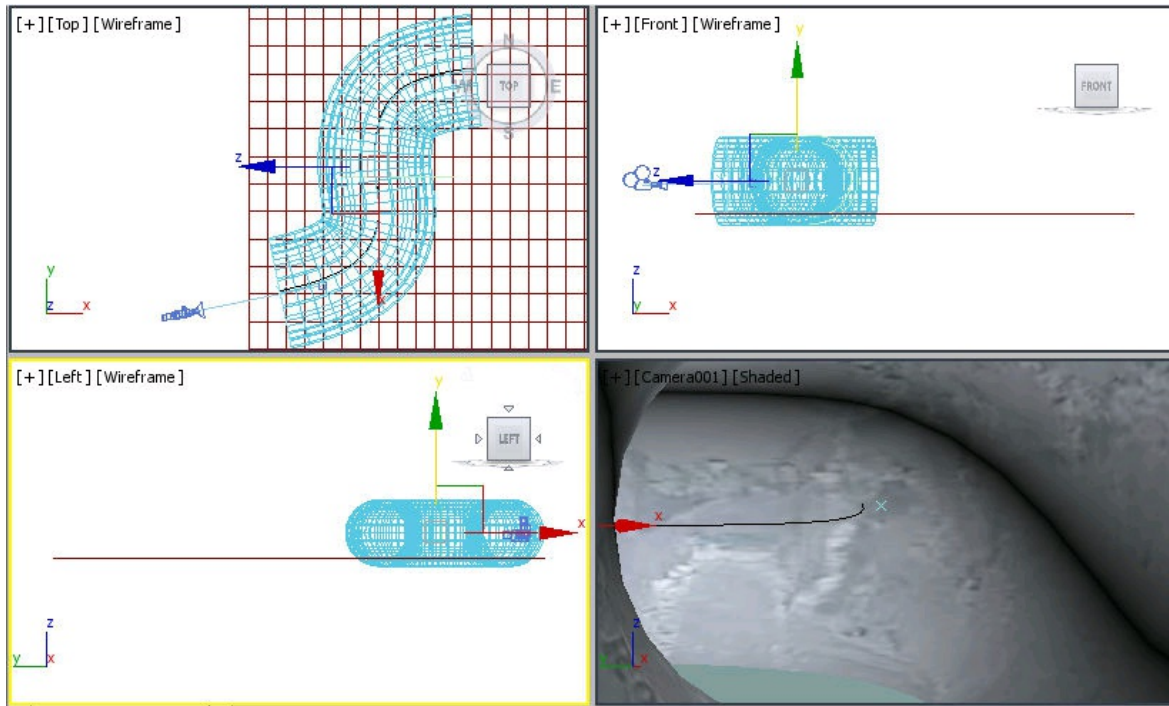

Figure 14-27 The path aligned in viewports
3. Modify the name of the line as *path* and align it in the viewports, as shown in Figure 14-27. Next, choose the **Maximize Viewport Toggle** tool.